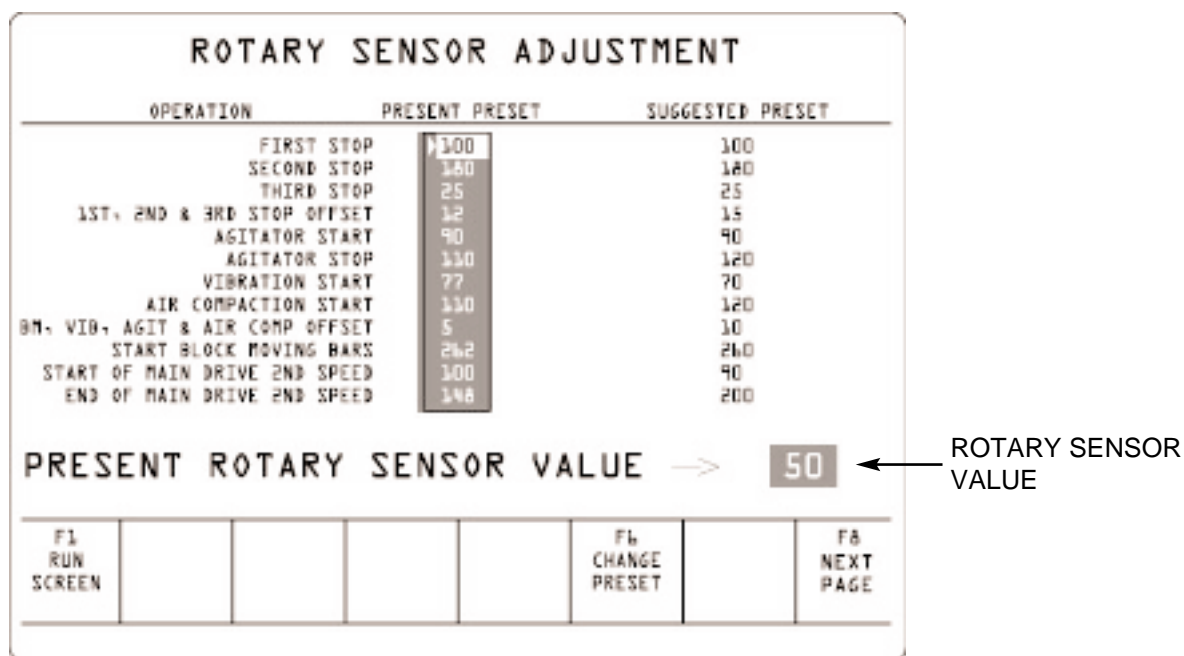
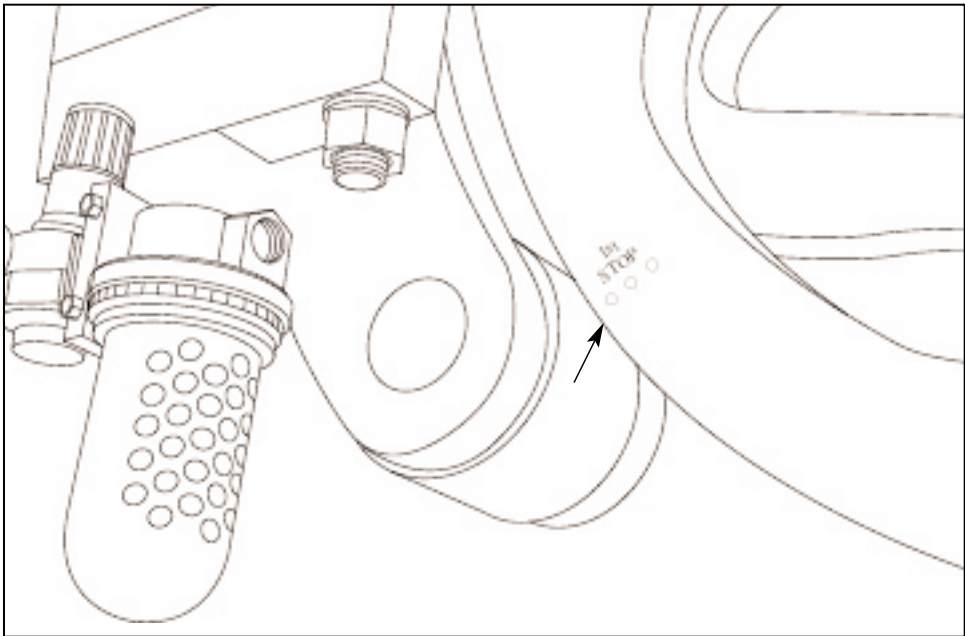

Figure 7.1 ROTARY SENSOR ADJUSTMENT SCREEN.
Figure 7.2 "FIRST STOP" (R.H. side of machine).
7.1 As an **initial condition**, cycle the machine to the "first stop" position "First stop" is obtained when the punch marks on the cam are in line with the roller.(see figure 7.2). In this position, the feedbox should be all the way forward and the roller should be centered on the first stop mark of the pallet receiver cam. At this point, the "Rotary sensor value" should be indicating 100° on the rotary sensor adjustment screen (see figure 7.1, for more details see section 10.4). To reach this screen, press "F2" from the main menu.